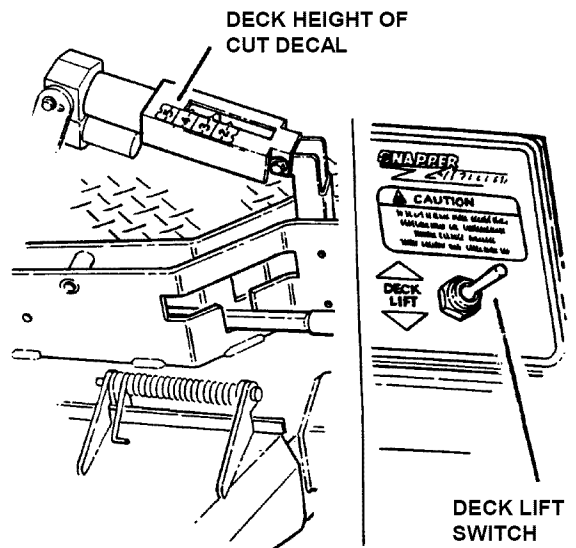

FIGURE 3.10
1. Adjust cutting height as desired to any position, using deck lift switch. When in desired height of cut, release switch. See Figure 3.10. Observe the height of cut decal located on the upper right top side of the deck to place deck at the correct height of cut. See Figure 3.10.